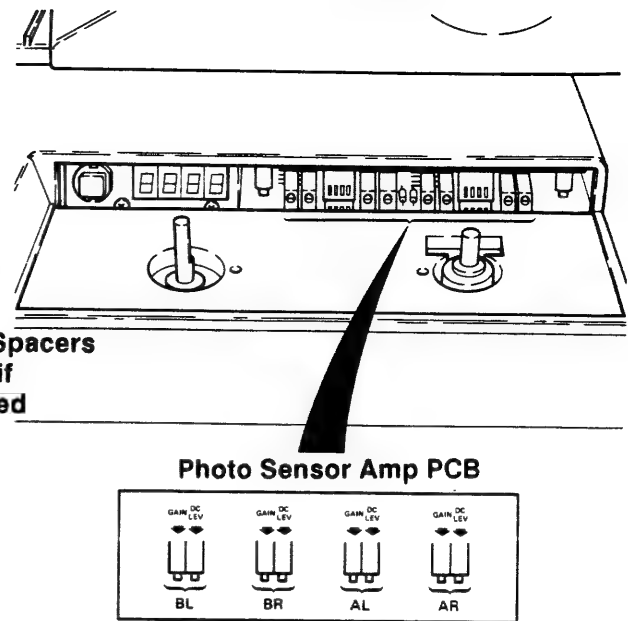

Figure 2-3.2K
32. Remove the protective tape and position the Photo Sense PWB Decal (Item 13) in front of the Blip Photo Sensor Gain Pots (Figure 2-3.2K).